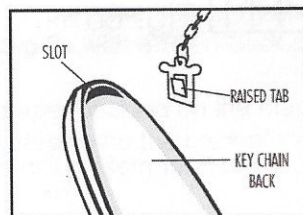

Fig. 8
3. Now repeat steps 3, 4 and 5 for making Pin-back buttons. Remove the button. Attach the key chain by inserting the raised tab into the slot, making sure the tab is facing the artwork. If the key chain does not stay inserted in the button, you have inserted the tab backwards (see Fig. 8).